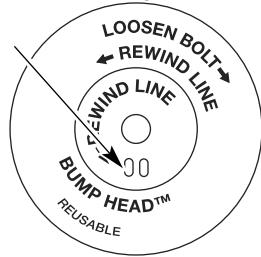

Fig. 17
**NOTE:** SplitLinea can only be used with the inner reel with the slotted holes. Single line can be used on either type of inner reel. Use Figure 17 to identify the inner reel you have.